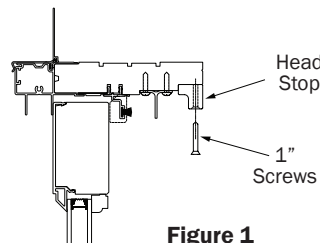

Figure 1
2. Remove the head stop by backing out the 1" Flat Head Screws and put aside (Figure 1). These will be re-installed.